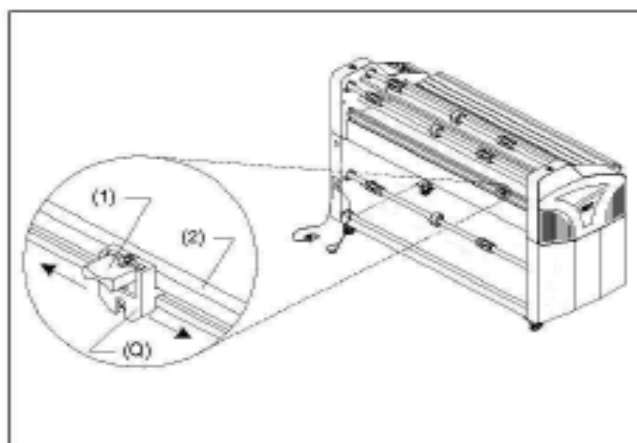

Fig. 19
Q. REAR SLITTER: (Figure 19) Used to cut the film web where it exits the rear of the laminator.